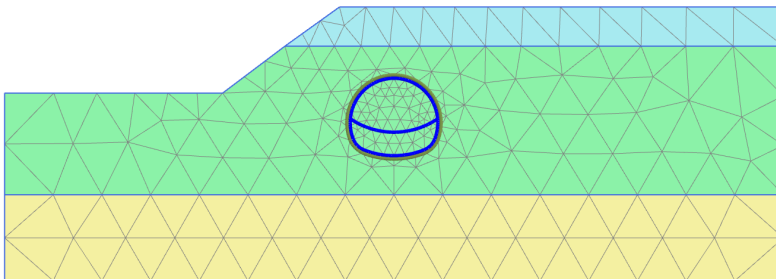

Figure 6.5 The generated mesh
- 🔍 View the mesh. The generated mesh is shown in Figure 6.5.